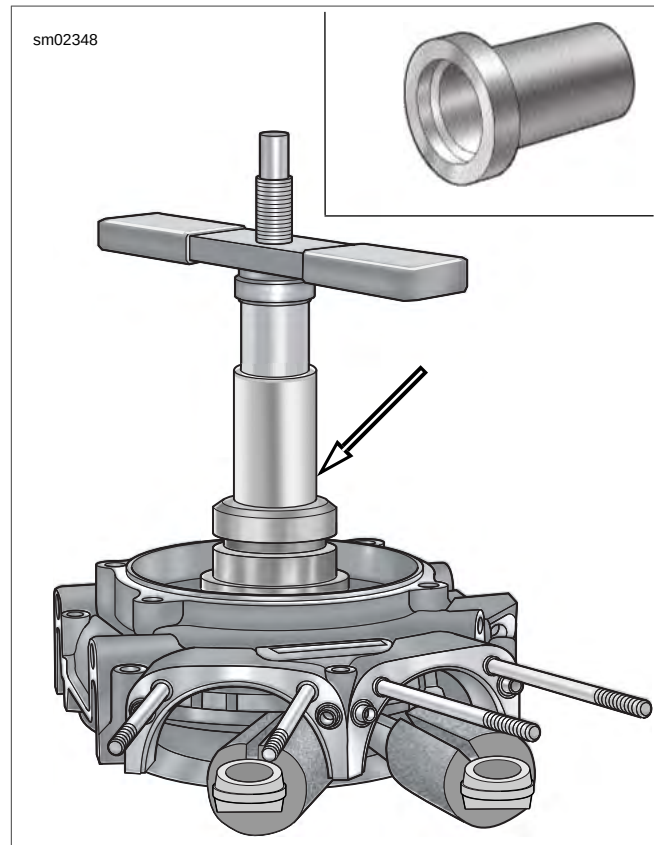

Figure 3-170. Sprocket Shaft Oil Seal Installer
12. See Figure 3-170. Install **new** oil seal into bearing bore. Obtain pilot adapter, pilot shaft, short collar, bearing, large flat washer and handle from SPROCKET SHAFT BEARING TOOL (Part No. HD-97225-55C).